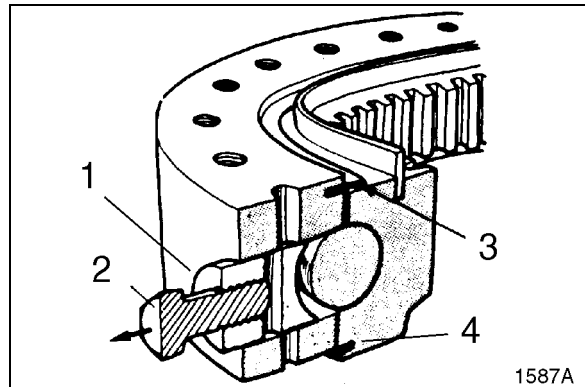
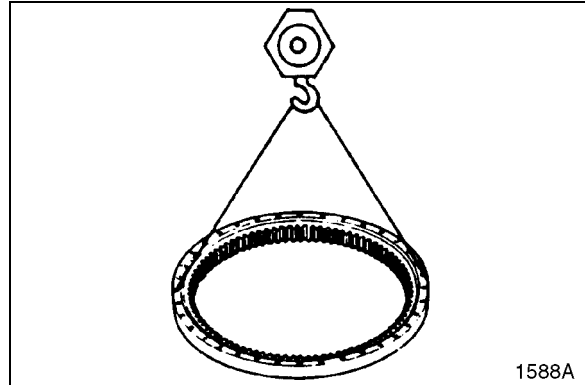

Figure 4
Figure 5
2. Remove plug (1, Figure 4) using a M10 x 1.25 bolt (2).
3. Lift outer ring and check that inner ring can move freely. See Figure 5, if not, replace seal (3, Figure 4) and/or seal (4, Figure 4).